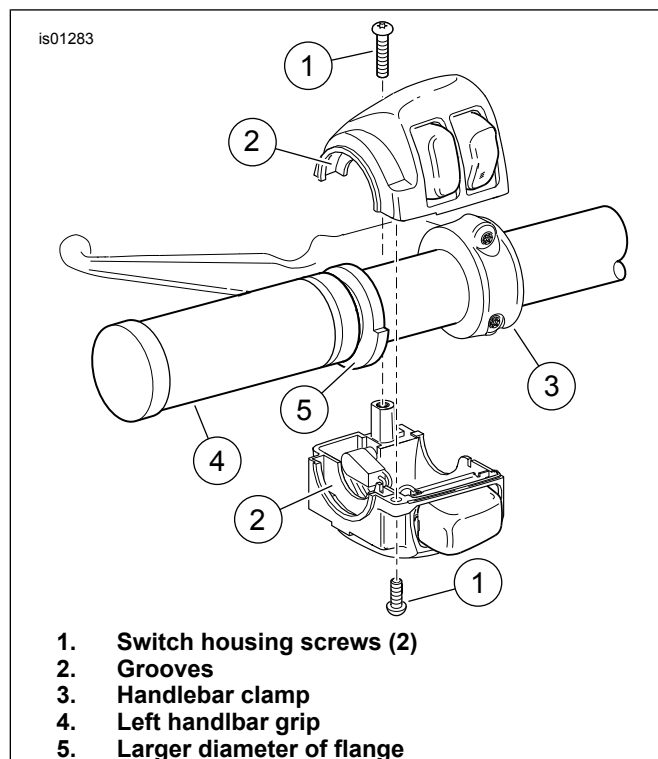

Figure 2. Left Handlebar Switch Housing
1. See Figure 2. Remove upper and lower switch housings screws (1).
2. Loosen upper screw securing handlebar clamp (3) to clutch lever bracket.